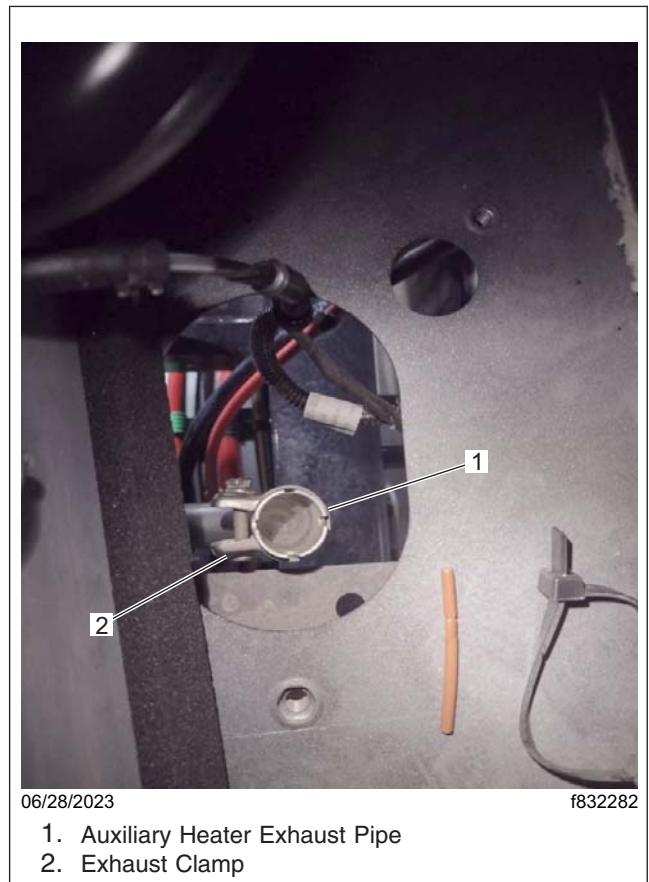

Fig. 22, Auxiliary Heater Exhaust Pipe Location
6. Locate the auxiliary heater exhaust pipe shown in **Fig. 22**. Cut the tie straps and remove the protective coverings as required.